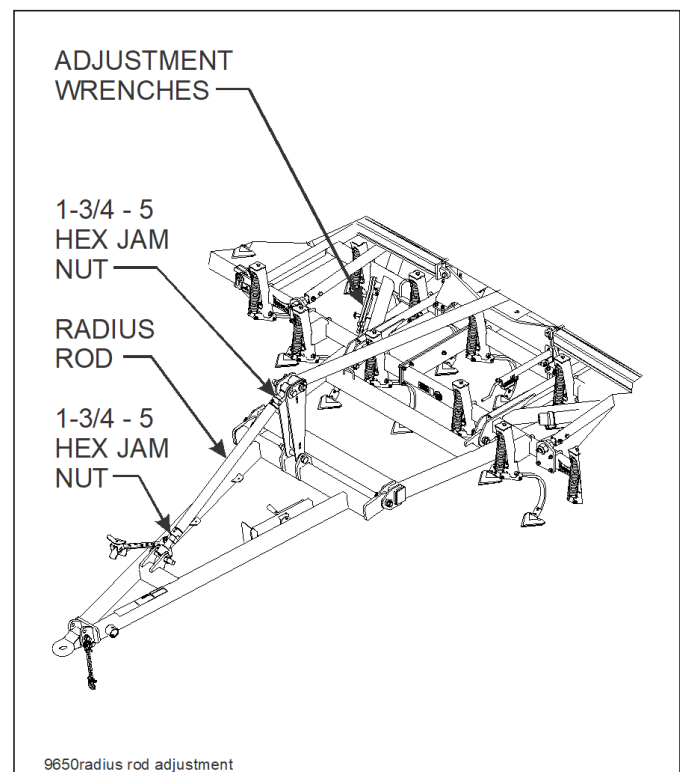
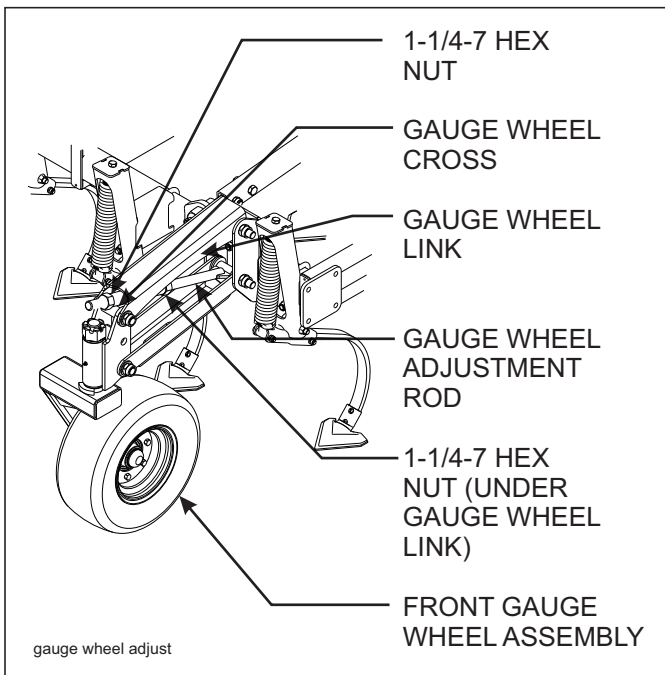

Figure 4-6: Radius Rod Adjustment
Figure 4-9: Gauge Wheel Adjustment
2. To adjust the Field Cultivator hitch height, loosen the locking jam nuts on each end of the adjustable radius rod located above the hitch See Figure 4-6. Wrenches are stored on the center frame to make this adjustment. Extend or retract the radius rod to obtain the desired hitch height.
3. To adjust the gauge wheel depth, loosen and adjust the nuts on each side of the gauge wheel cross *See Figure 4-9*. A wrench is provided on the implement for this adjustment *See Figure 4-6*. All other connections should remain tight. Securely tighten the adjusting nuts when complete. All gauge wheel assemblies should be set the same. Verify adjustment by measuring the length of the bolt centers of the gauge wheel adjustment rod.